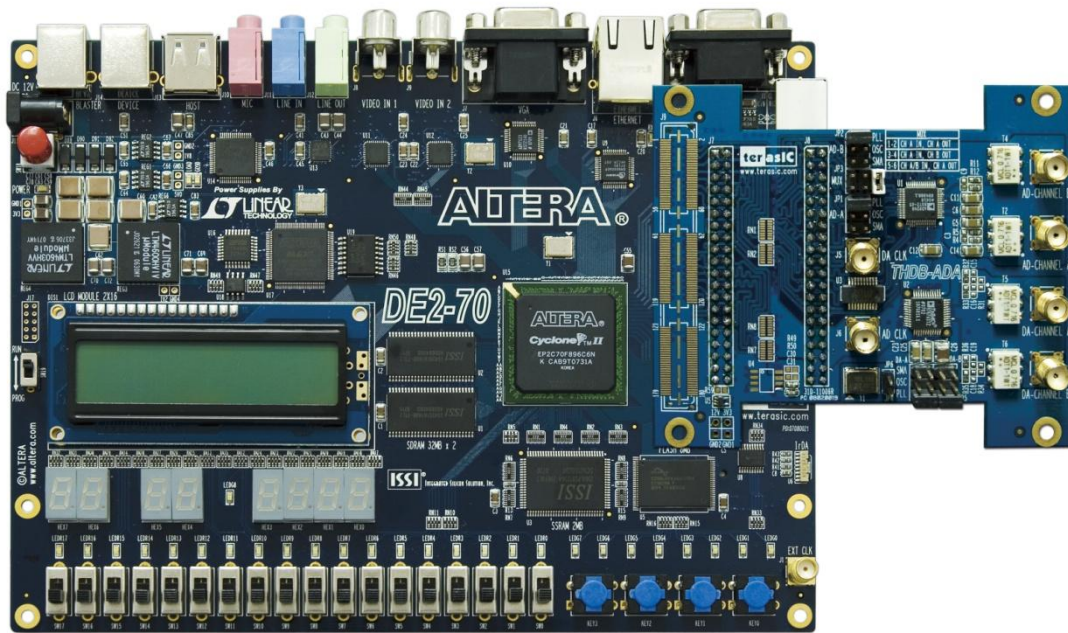

Figure 4-3 Connect ADA-GPIO with DE2-70
1. Connect the ADA-GPIO to DE2-70, as shown in Figure 4-3